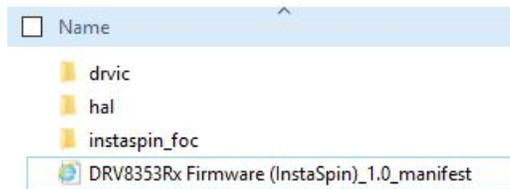

Figure 10. File Directories for DRV8353Rx
Step 8. It will contain 3 file directories as shown in Figure 10.